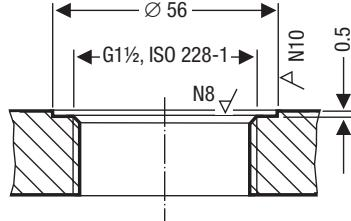

Fig. 5
12. Check seating surfaces. **Fig. 5**
13. Place supplied joint ring ④ onto seating surface of the threaded standpipe or flange. **Fig. 5**
14. Apply a light smear of heat resistant silicone grease (e.g. WINIX® 2150) to electrode thread ③.